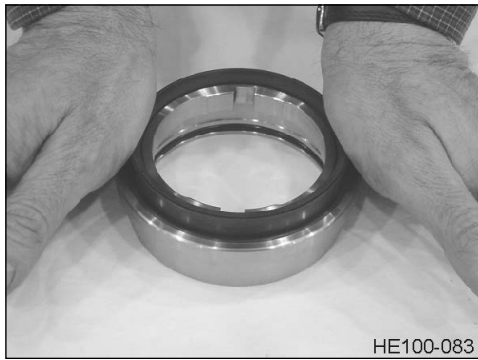

Figure 74 - Press Insert Down Evenly with Both Hands
3. Push the insert down evenly with both hands until it bottoms in the housing (Figure 74).